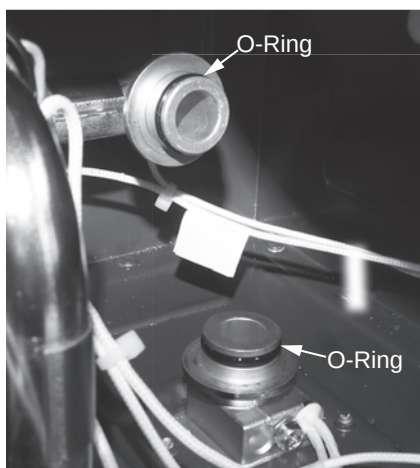

Figure 215 - Locating the O-rings
19 Locate the two (2) O-rings on the exposed water pipe connections as shown in Figure 6 and remove them and install the new O-rings. Dispose of the old O-rings properly. See Figure 215.
Figure 6 and remove them and install the new O-rings. Dispose of the old O-rings properly. See Figure 215.